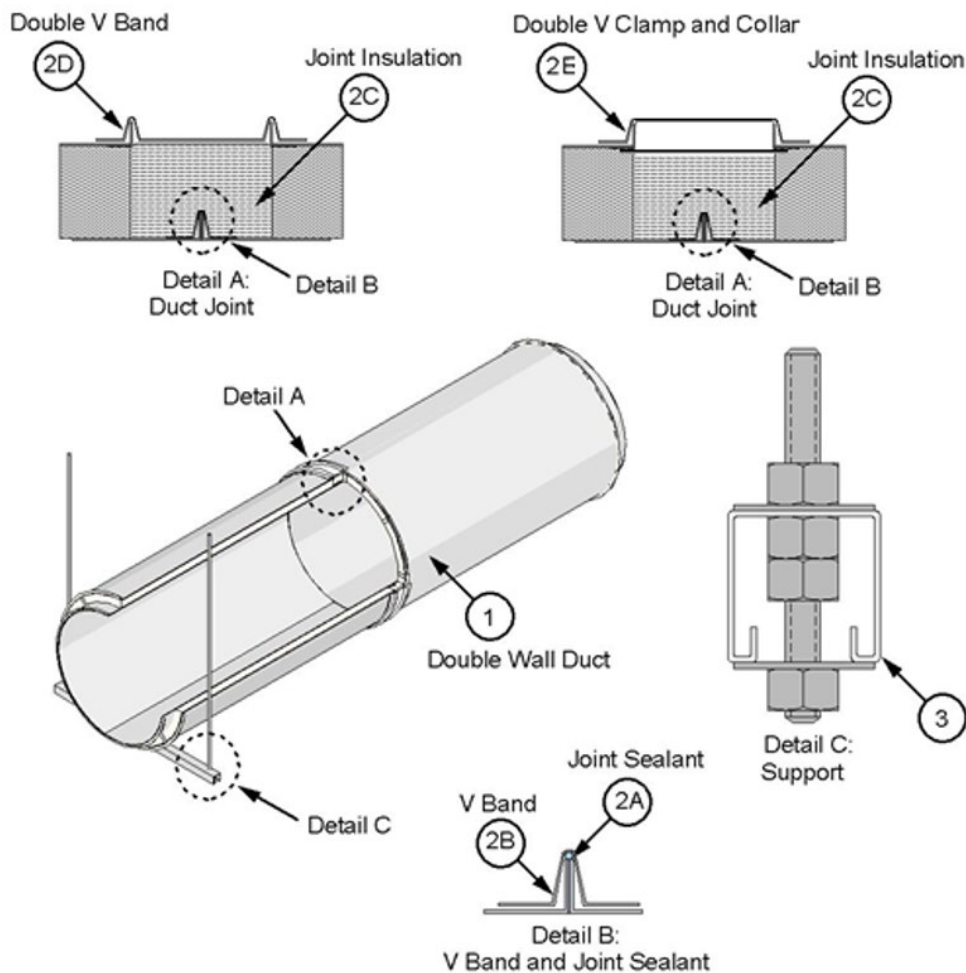

Figure 1. Double Wall Duct and Horizontal Support
- B. **V BAND** – Use the supplied V band (see Figure 1). Place the loose V band, filled with joint sealant (Item 2A), over one of the inner duct flanges. Join to the other inner duct flange with the continuous bead of joint sealant (Item 2A) and rotate slightly to ensure complete coverage of joint sealant (Item 2A) on flanges. Ensure that the flanges are located within the V band and that the V band hardware is not at the bottom side of a horizontal duct. Tap the V band while tightening the integral 1/4-20 hardware to ensure flanges are aligned and pulled together. Tighten to 40-60 in. lbs.
- D. **DOUBLE V BAND** – Use the supplied double V band (see Figure 1) for grease duct diameters ≤ 24 in. Place double V band with the grease duct outer shell flanges seated in the V band; tighten integral 1/4-20 hardware to 40-60 in. lbs.
- E. **DOUBLE V CLAMP AND COLLAR** – Use the supplied double V clamp and collar (see Figure 1) for grease duct diameters > 24 in. Use the sheet metal collar to retain the joint insulation; overlap collar ends and fasten together with min. two min. size #6 sheet metal screws. Place double V clamp with the grease duct outer shell flanges seated within the clamp recess; tighten integral 1/4-20 hardware to 40-60 in. lbs.
- A. **HORIZONTAL SUPPORTS** – Support the prefabricated grease duct (Item 1) using min. 12 GA, 1-5/8 in. x 1-5/8 in. Unistrut® channel or 2 in. x 2 in. x 1/4 in. steel angle as the supporting cross-member and two min. 1/2 in. diameter, threaded steel rods connected using Grade 5 hex nuts and 1/2 in. hardened washers (see Figure 1, Detail C). For grease duct diameters > 24 -in., use supplied 12 GA steel saddles fastened to the Unistrut® channels with supplied 5/16-18 hardware. Connect the threaded steel rods to the bottom of the